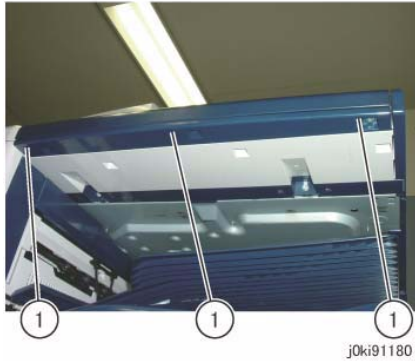

Figure 1 Release the hooks
3. Release the hooks of the Overlay Cover. (Figure 1)